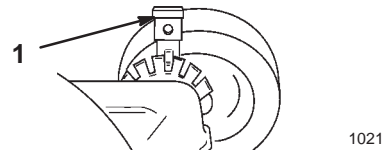

Figure 13
1. Pull the adjusting lever toward the wheel and move it to the desired position (Fig. 13).